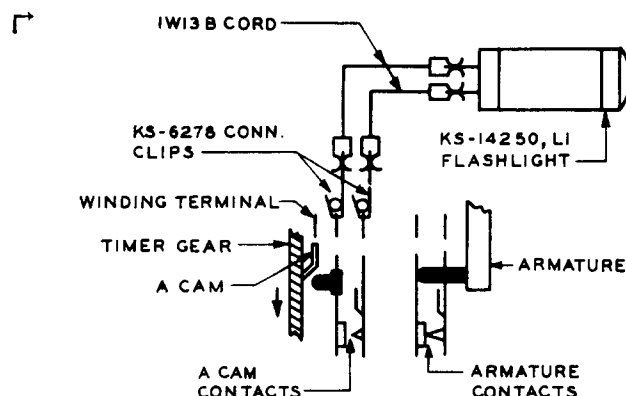
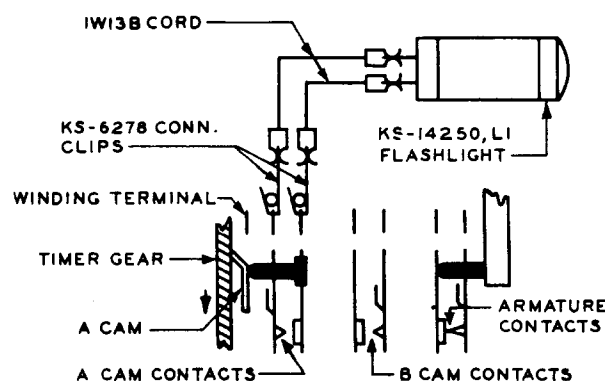

Fig. 19 - Connections for Checking "A" Cam Contact Closure
Fig. 20 - Connections for Checking "A" Cam Contact Closure
(1) Preparation: Plug one end of each of two 1W13B cords, by means of the No. 360A tool, to the terminals of the bottom cap of the flashlights. Use the flashlights as specified below in making the tests. Closure of contacts will be indicated by lighting the associated flashlight and opening of contacts by extinguishing the flashlight. When checking the No. 1C or D-99325 timer, unsolder and remove the wire from 6T terminal of the MR2 relay on the same frame. When checking the No. 1D or D-99326 timer, insulate the 3T contact of the PU2 relay on the same frame.
(2) Time Between Closure and Reclosure of "A" Cam Contacts: Connect a flashlight to the proper spring terminals at the rear of the timer as indicated in Fig. 19 for the 1C timer or Fig. 20 for the 1D timer. Operate the timer magnet by connecting ground to the right winding terminal at the top of the timer. Begin timing with the KS-3008 stop watch when the "A" cam contacts first close, as noted by the lighting of the flashlight. During a revolution of the timer gear, timed from the point of contact closure, the contacts will open and again close at which closure cease timing.
(3) Time of Closure of "A" Cam Contacts: With a flashlight connected across the "A" cam contacts as in (2), operate the timer magnet by connecting ground to the right winding terminal at the top of the timer. Begin timing with the KS-3008 stop watch when the "A" cam contacts first close, as noted by the lighting of the